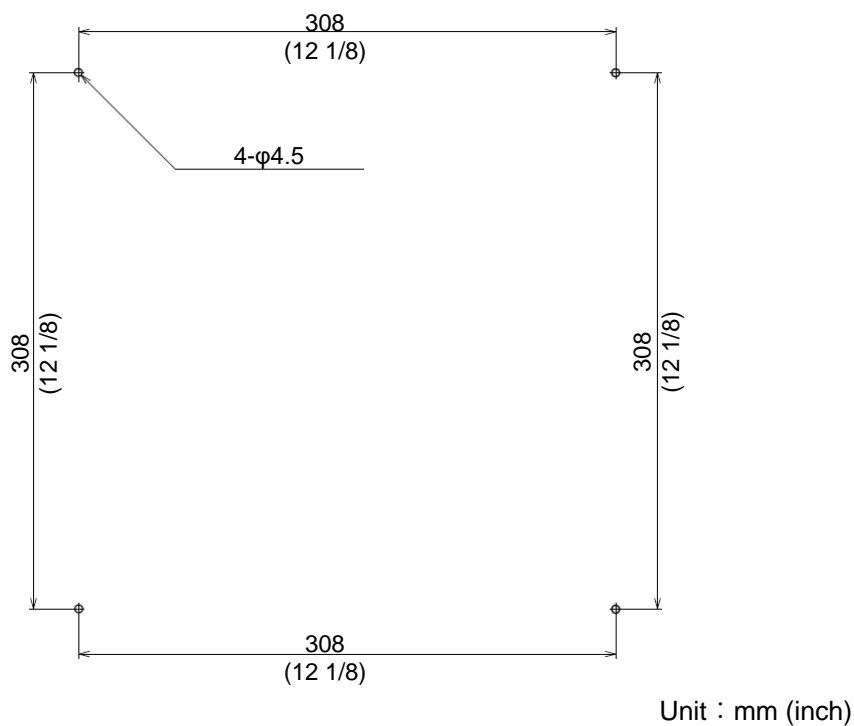

Fig. 1.6 Position of installation hole of Processor unit
- (1) Make 4 holes at the location to be installed (See Fig. 1.6)
- (2) Install the Processor unit in the installing location (square hole) and fix it with 4 tapping screws (4mm) (M4 or pan-head). (Prepare 4 mm screws suitable for thickness of installing location.)